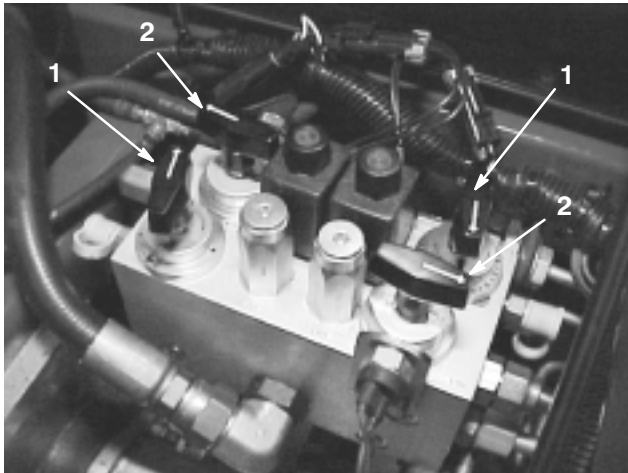

Figure 20
3. Locate the reel speed selector knobs and backlap knobs (Fig. 20). Rotate the desired backlap knob(s) to the backlap position and the desired reel speed selector knob(s) to position “1.”